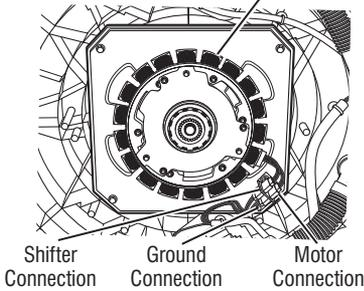
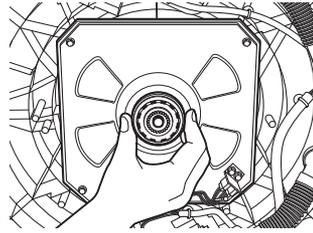

Figure 3b - Motor Cover Removed
Figure 4 - Checking Slider Movement/Appearance
- 12.** Remove the motor bolt, then the motor cover (see Figure 3b). Remove the motor stator and the shifter coil and confirm that the slider on the motor shaft moves freely (see Figure 4).
10. Tilt washer back (if it is not already) to disconnect the motor connector and use an ohmmeter to verify the motor resistance values at the drive motor connector (see Figure 3b, page 16).
11. Remove the motor bolt, then the motor cover (see Figure 3b, page 16).